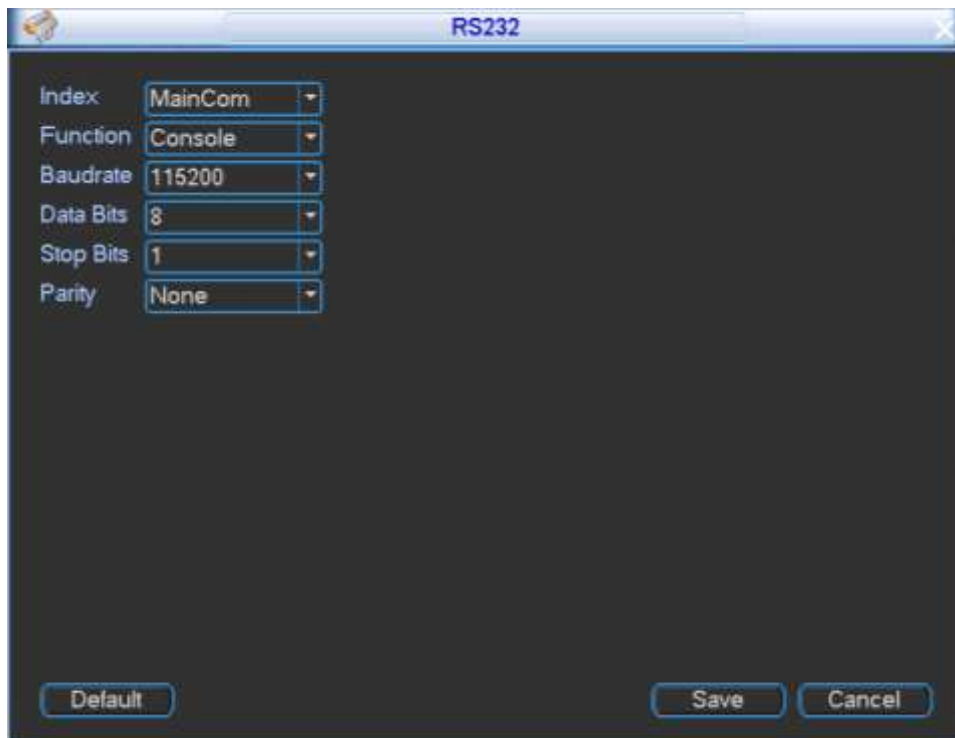

Figure 4-81
Step 1 From Main Menu->Setting->System->RS232, RS232 interface is shown as below. There are six items. See Figure 4-81.